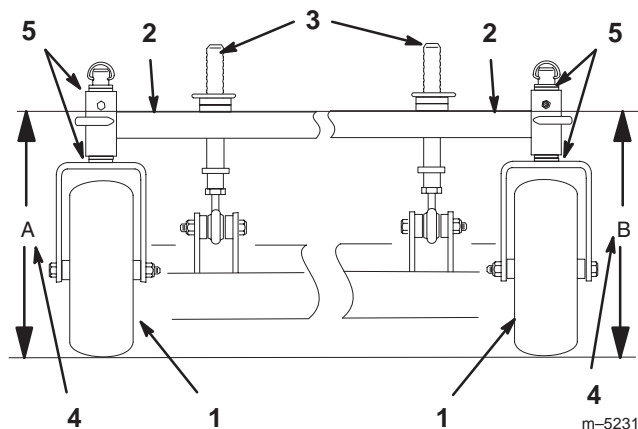

Figure 53
3. Measure carrier frame height at location "A" (Fig. 53).
4. Measure carrier frame height at location "B" (Fig. 53).